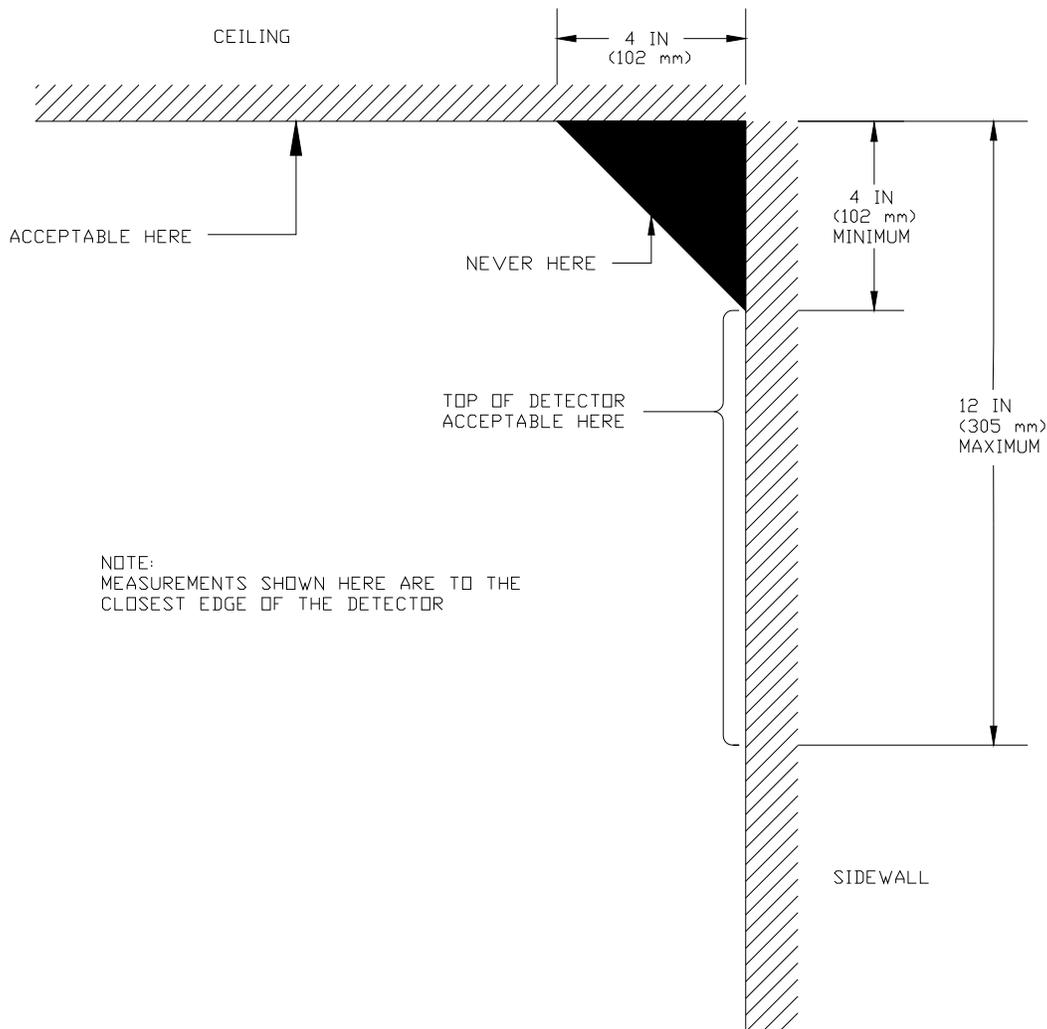

Figure 5
**4.7.1** All detectors, including fusible links, shall be placed as shown in Figure 5, but in no event shall detectors be placed in the dead air space area shown in Figure 5.
3. Locate the second fusible link within 12 inches of the ceiling on the door side of the wall. Do not install a link or detector within four inches of the intersection of the wall and the ceiling. (*See Figure 5*)
4. Locate the third fusible link on the opposite side of the wall at a distance from the wall that will allow sufficient travel of the sash chain or cable to completely release the fire door. Attach the fusible link near the ceiling straight out from the through wall hole. The fusible link must be more than four inches from the intersection of the wall and ceiling. See "through-wall conduit installation information" on page 4. (*Also see Fig. 5*)